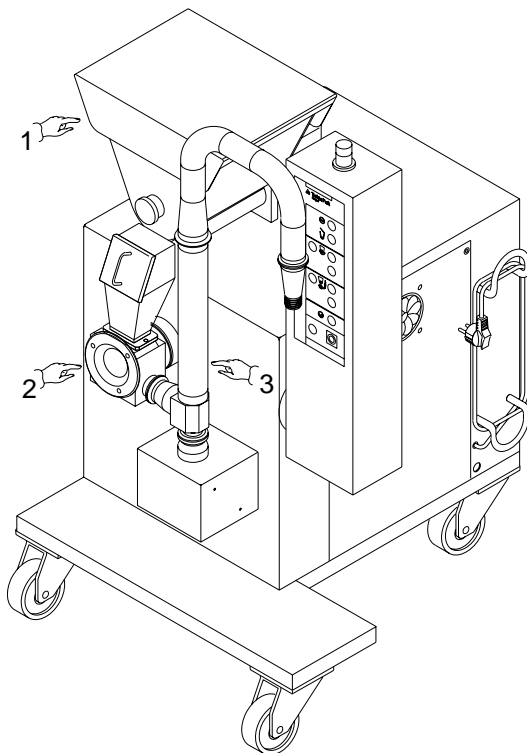

Fig. 3.1
1. A dosing unit, consisting of a main hopper (*Pos.1, Fig.3.1*), a screw feeder and a secondary hopper.
2. A pump unit, consisting of a vane pump (*Pos.2, Fig.3.1*), which feeds the ingredients into the flow of ice-cream coming from the continuous freezer.
3. An in-line mixer (*Pos.3, Fig.3.1*), consisting of a shaft with angled blades positioned inside the section of pipe downstream of the pump unit. This unit serves to provide intensive mixing of the product with the ice-cream before it goes on to the filler machine.